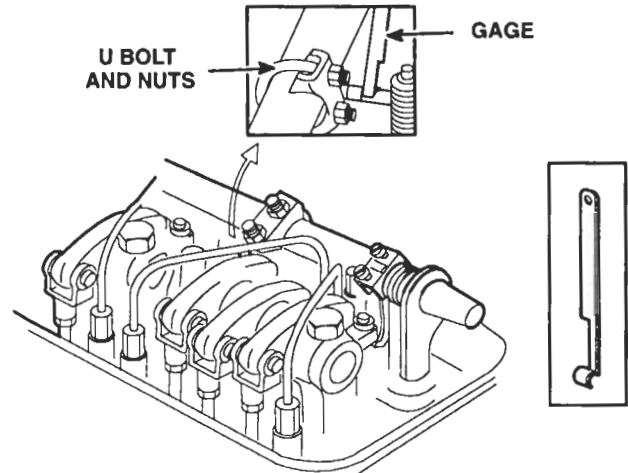

Figure 7. Adjusting Throttle Delay Cylinder
1. Insert gage J 23190 (.454 inch setting) between (Figure 7.) the injector body and the shoulder on the injector rack. Then exert a light pressure on the injector control tube in the direction of full fuel.